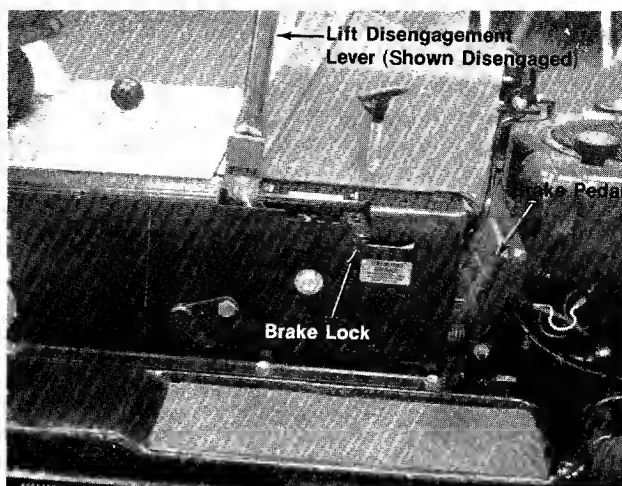

FIGURE 8. RIGHT HAND CONTROLS
c. Brake. The brake pedal is located on the right hand side of the mower and is operated by depressing it with your right foot. See figure 8.
d. Brake Lock. The brake lock is located on the right hand side of the mower. To lock the brake, depress the brake pedal and lift up the lock button. The pedal will stay depressed. To release, depress the pedal. See figure 8.
l. Lift and Disengagement Lever. It is used to raise the cutting deck. Pulling it all the way back and locking it disengages the blades. The engine will not start unless the lift and disengagement lever is in the disengaged position. See figure 8.
- Step 3. Place the lift and disengagement lever in the **DISENGAGED** position. See figure 8.
To stop the blades, move the lift and disengagement lever (figure 8) into the **DISENGAGED** position. This raises the deck and disengages the blades.